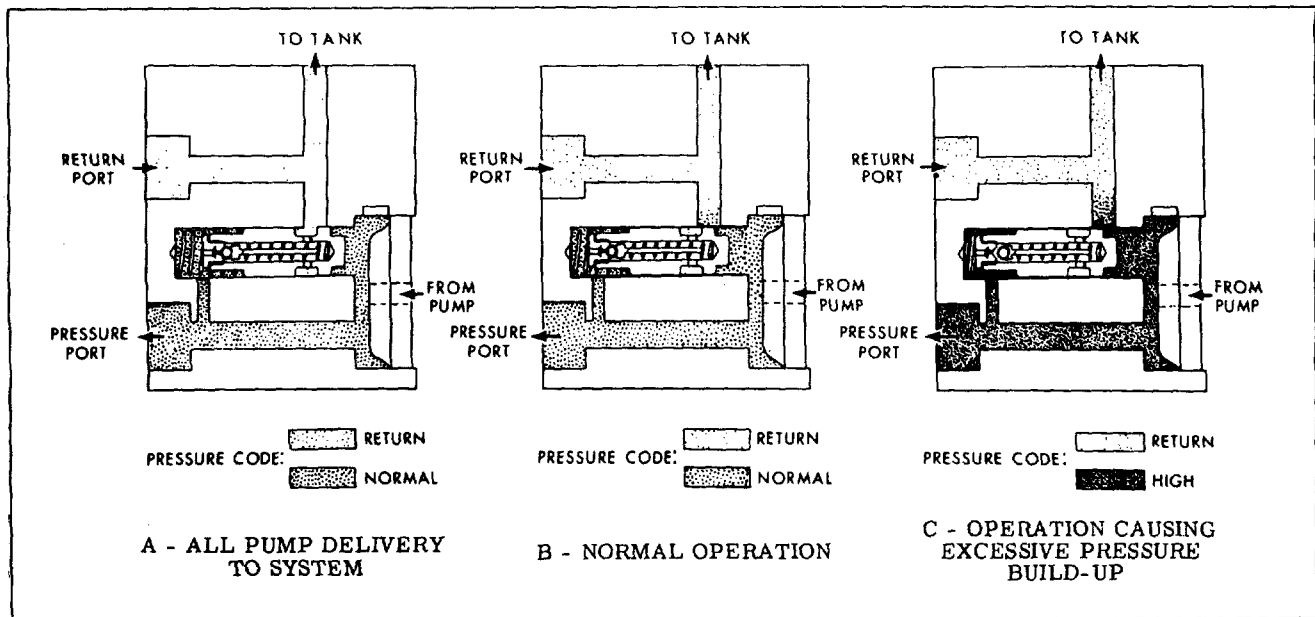

FIGURE 4
2. When all pump delivery can pass through the restriction to the load, the spool is held in the closed position by the large spring (2) and passage C is blocked from chamber B. This is the condition illustrated in Figure 4-A.
3. When pump delivery is greater than the flow rate determined by the restriction (D), a pressure build-up in chamber B forces the spool open against the large spring force. Excess fluid is throttled past the spool to passage C and back to inlet, as shown in Figure 4-B.
4. Figure 4-C shows the condition when pressure in the system builds up to the relief valve setting. Pressure is transmitted through sensing orifices G and H and forces the ball (4) from its seat. Fluid flow is then from chamber B, through orifice D, passage E, orifices G, H and J to, passage C and to inlet. The pressure drop across restriction D resulting from this flow causes a differential pressure on the spool ends and the spool is shifted against the large spring, permitting the remainder of pump delivery to flow from chamber B to passage C.